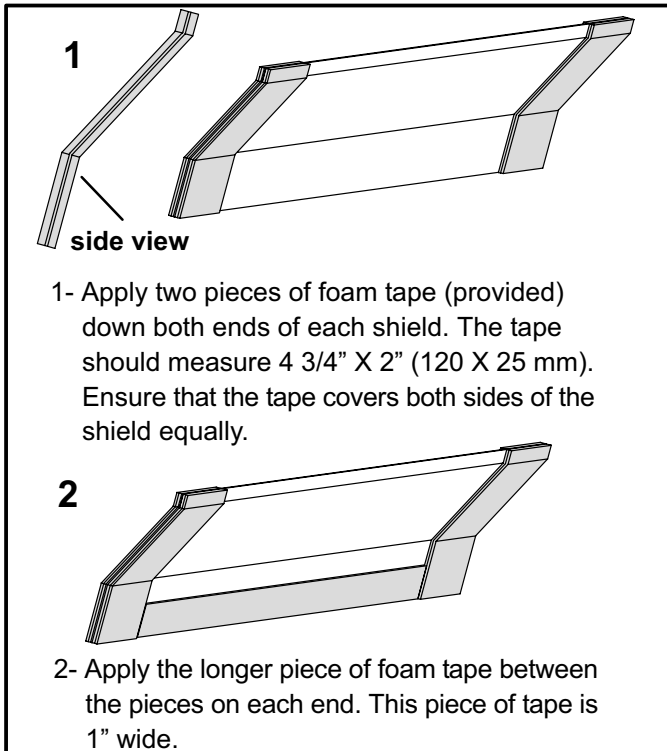

FIGURE 22
- 5- Install downflow drip shield firmly in place on inside of coil slab from under drain pan. See figures 22 and 23.